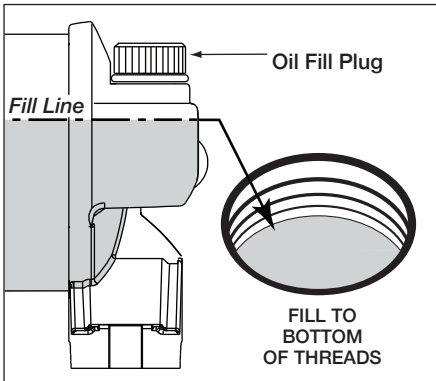

Figure 16, Reservoir Oil Level
3. Check oil level. See Figure 16. If oil level is low, add additional oil until oil level is up to the bottom thread of the oil fill plug opening.